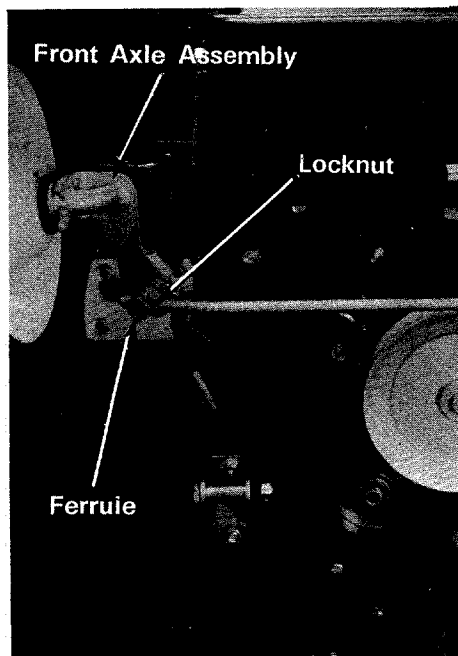

FIGURE 11.
1. Remove the cotter pin holding the ferrule to the front axle assembly. See figure 11.